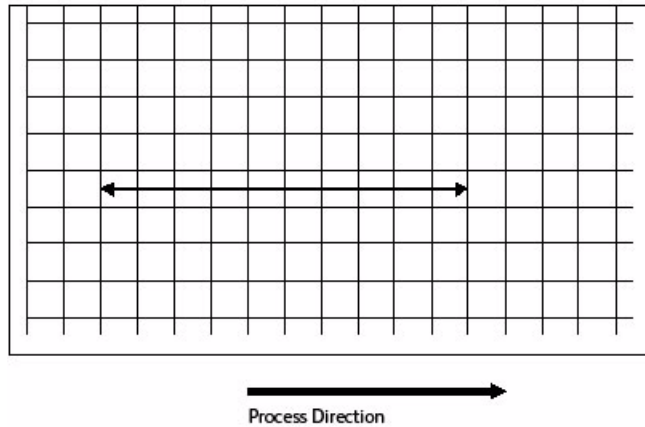

Figure 1 Image Size Adjustment Check
3. Select **dc361 NVM Save and Restore**. The dc361 NVM Save and Restore window opens (**Figure 1**)
Figure 1 dc361 NVM Save and Restore
7. Check the measured value in process direction of 10 grid squares. The results should be 199.8 mm as in **Figure 1**. If the desired result is not achieved continue with this procedure.